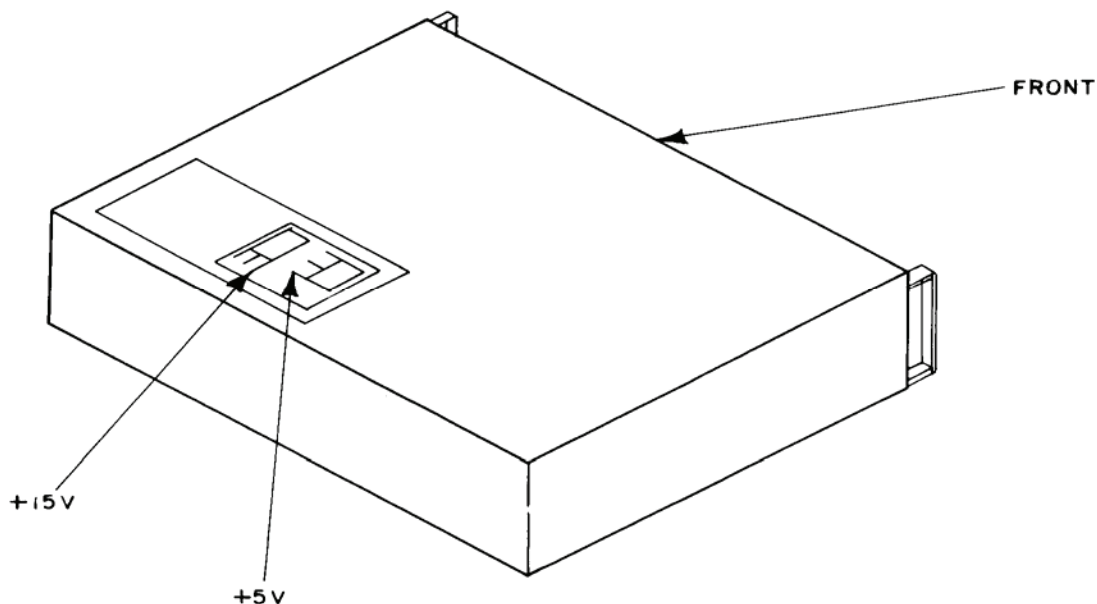

Figure 6. Test instrument - bottom interior view.
(1) Connect multimeter between +5 V test point (fig. 6) and chassis ground. Multimeter indication will be between 4.75 and 5.25 V dc.
(2) Connect multimeter between +15 V test point (fig. 6) and chassis ground. Multimeter indication will be between 14.5 and 15.75 V dc.